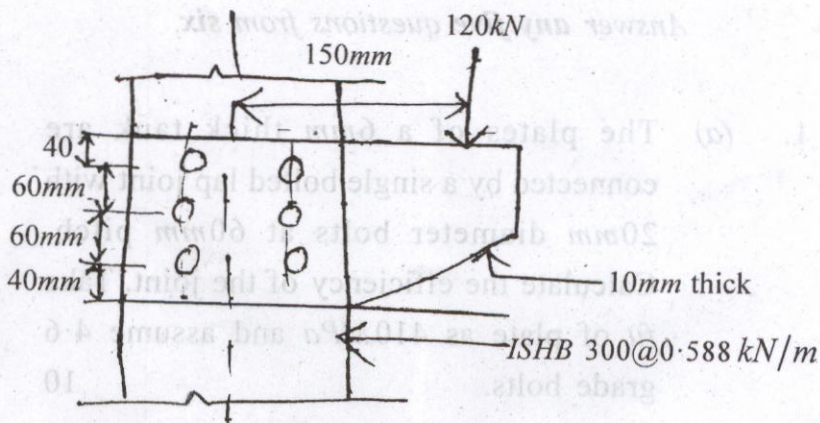

Fig. 1
2. Design a bolted connection for a bracket carrying an eccentric load of 120kN at a distance of 150mm from the centre line of an ISHB 300@0.588 kN/m as shown in Fig. 1. 20